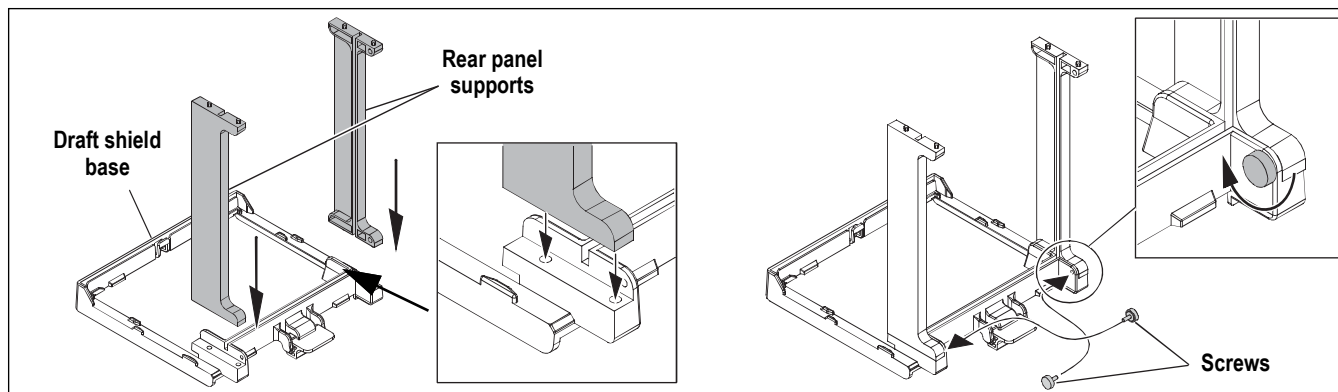

Figure 2-8. Install Rear Panel Supports
2. Insert one of the rear panel supports into the bottom frame as shown in Figure 2-8. Ensure flat side is on the outside.